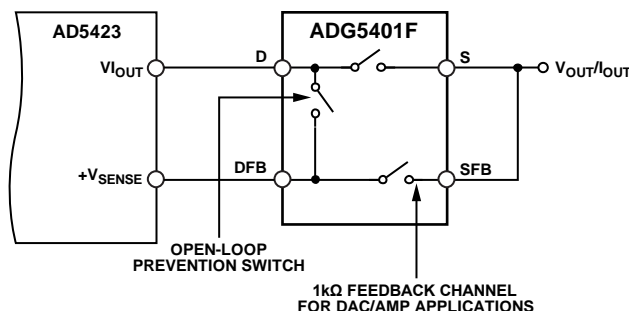

Figure 49. Open-Loop Prevention Feature
The open-loop prevention feature is an internal switch in the ADG5401F. When the main switch is disabled, this switch connects the drain (D) of the main switch and the drain of the feedback switch (DFB) (see Figure 49). This internal open-loop prevention switch opens and closes automatically when the main channel switch toggles. This feature stabilizes an amplifier output by preventing the amplifier from going into an open-loop configuration. When the main switch disables in normal operation or in a fault condition, the open-loop prevention switch activates. Note that the open-loop prevention switch is identical to the feedback channel switch.